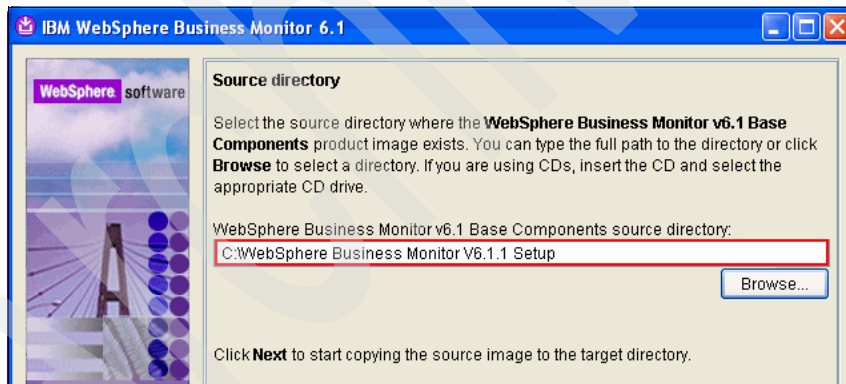

Figure 3-14 WebSphere Business Monitor 6.1 installation preparation: Source directory
6. In the Source directory panel (Figure 3-14), in the WebSphere Business Monitor Version 6.1 source directory field, enter the path of the installation image. In our example, we type C:\WebSphere Business Monitor V6.1.1 Setup. Click **Next**.